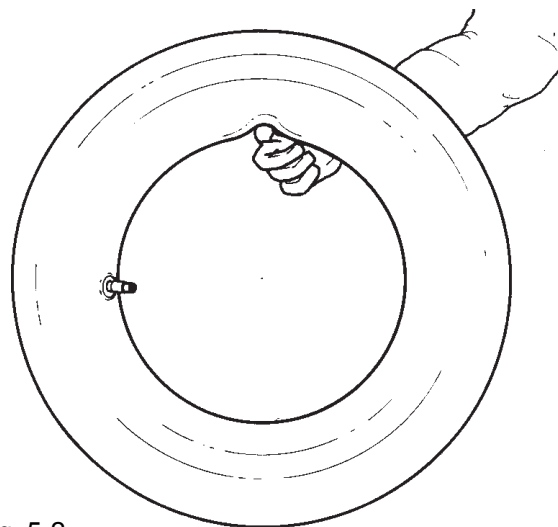

Fig. 5-2
C. Inflate the tube slightly: if held with the index finger it should bend a little (Fig. 5-2).